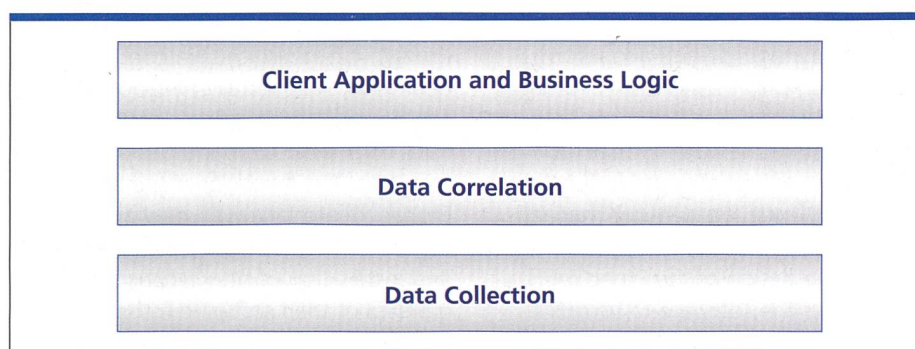
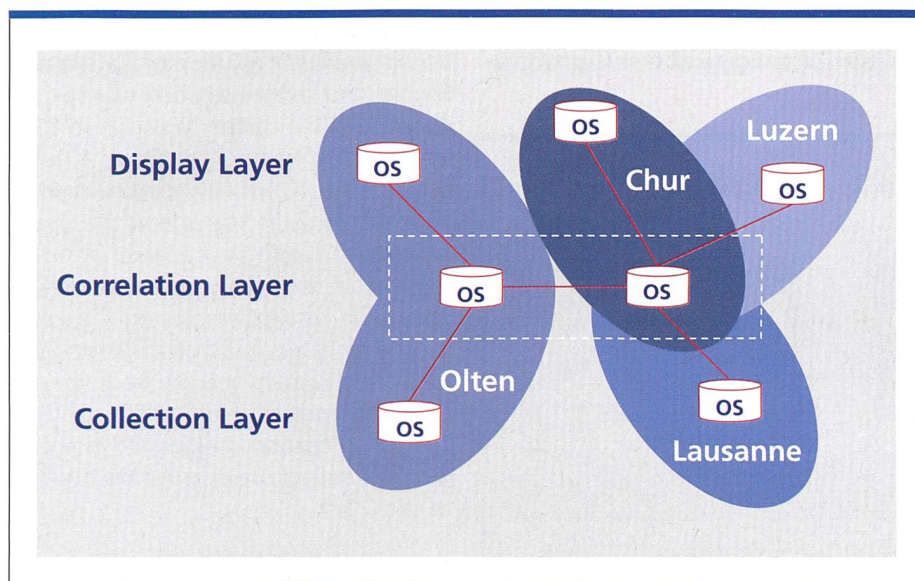

Fig. 5. Layered Architecture.
Fig. 6. Scalable Architecture.
The layered structure of the CAM system (fig. 5) comprises the Data Collection, the Data Correlation and the Display Layer. The Data Collection Layer is responsible for gathering all data relevant for the alarm management and contains the Probe and the Probe Server. In the
gram information. The SW design allows users to customise the Netcool Probe's behaviour. Additionally, Netcool Probes can be configured, using a sophisticated rules engine, to filter and translate certain data. The flexibility of the Netcool Probes to interface with new and existing technologies enables the adoption and installation of new technologies, regardless of their software foundation. It is possible to build different functional layers with a Netcool solution (as in fig. 5) or to adapt the solution architecture to technology, organisational or geographical criteria instead (as in fig. 6). Within the CAM solution of Swisscom Mobile, the layered solution was selected with the option to switch to the latter possibility at a later point. A distribution of the Object Server (OS) is possible should some management processes have to be managed by another team at another locality. (Note: Today, the whole CAM system – except some Probes – is installed in Olten where the Primary and the Backup Server are located in different rooms. The other locations mentioned in figure 6 should reflect the possible distribution of the OSs.)